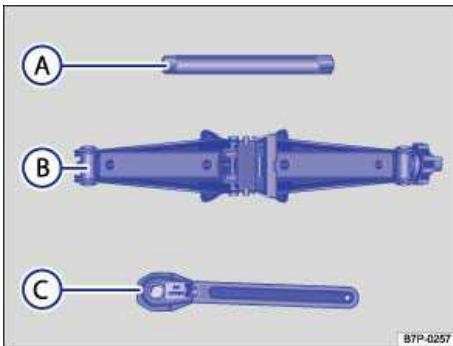

Fig. 340 Scissor jack components.
8. Insert the extension ⇒ fig. 340 \(A\) into the scissors jack (**B**). Attach the crank (**C**) to the extension (**A**).
9. Find the jack lift point ⇒ fig. 340 on the vehicle frame that is closest to the wheel to be changed.